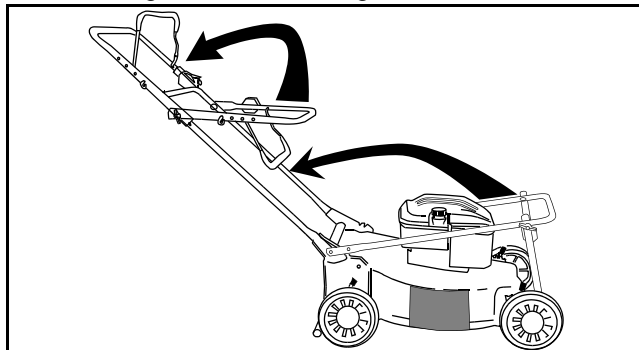

Figure 2
- Pull up and back on the upper handle to raise the handle into the operating position. Make certain the lower handle is seated securely into the handle mounting brackets. See Figure 2.